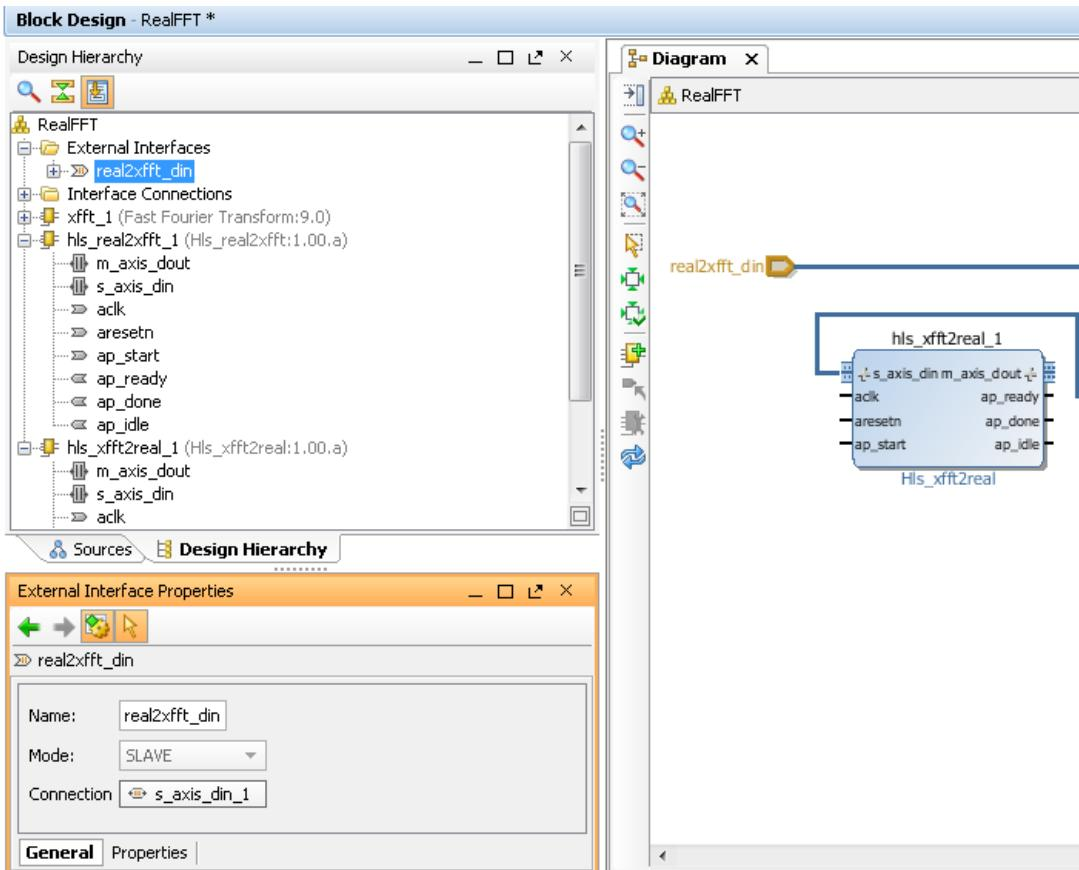

Figure 205 Port Naming
- In the External Interface Properties pane (Figure 205).